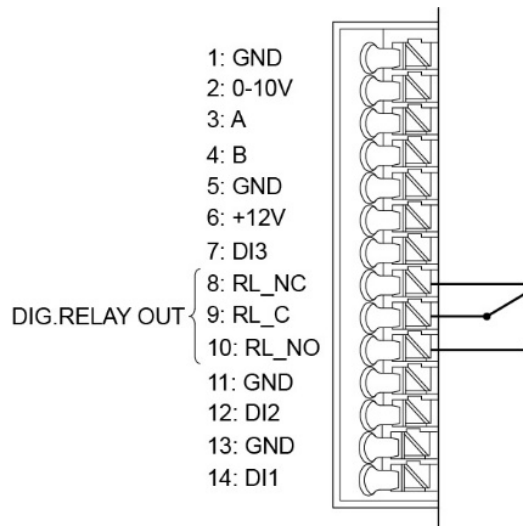

Fig. 106: Modbus cable RJ12 connector
24. The RCD is equipped with a digital relay output, which can, for example, be used for alarm signals (Fig. 106/1). The relay output is a potential-free relay with changeover switch. The factory-configured function is an alarm relay. Max. load is 2A/30 V DC/24 V AC.